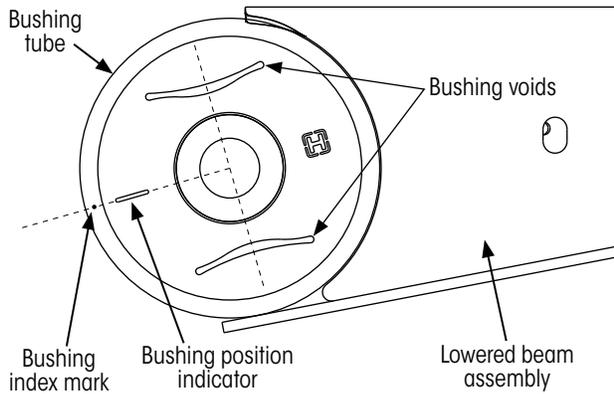

Figure 12: Bushing orientation within the bushing tube
1. With the beam assembly lowered, locate the bushing index mark on the bushing tube (Figure 12).